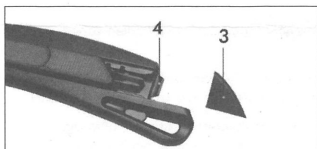
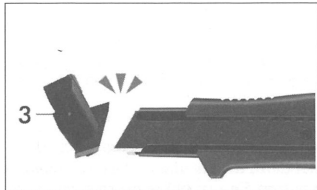

Fig. 1
Fig. 3
- a) Pull off the end cap (3, Fig. 1) .
b) Push the blade out with the pusher (2) to the predetermined breaking points.
c) Insert the end cap (3) with the slot onto the blade (Fig. 3) and break it away from the body to the rear. The segment breaks off automatically at the predetermined breaking point (Fig. 5).
d) After use push the end cap (3) back into the housing.